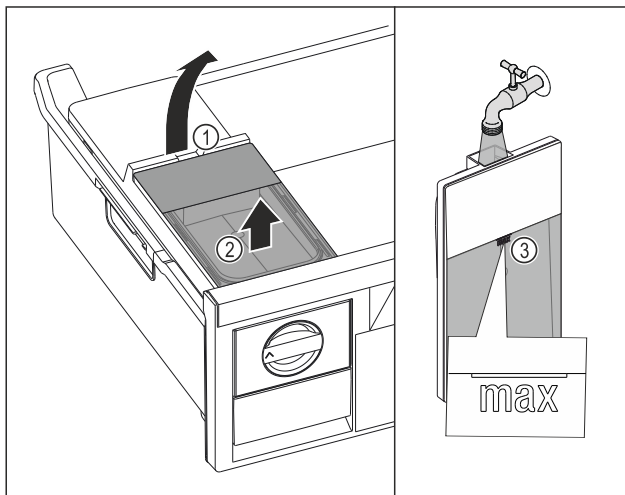

Fig. 152
- Lift the water tank at the recess Fig. 152 (1).
- Remove the water tank by lifting it upwards. Fig. 152 (2)
- Fill the water tank with drinking water up to the mark Fig. 152 (3).